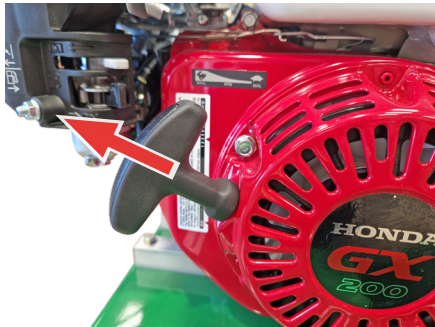

Fig. 9G - Pull starter grip handle.
7. Grasp the starter grip handle and extend until the slack is removed. At this point, pull with a steady and fluid motion (Fig. 9G). The engine will start.